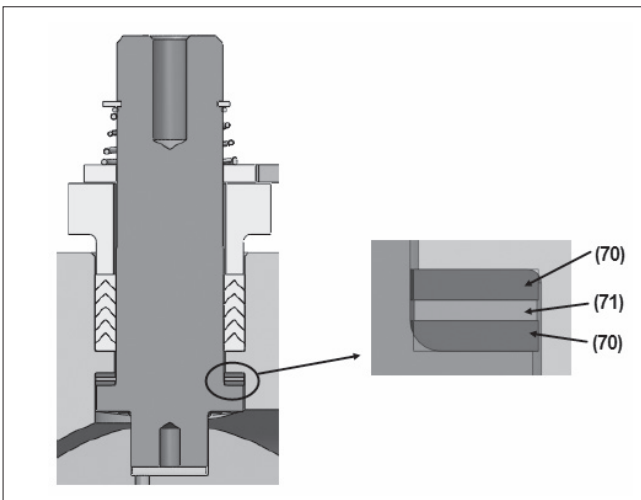

Figure 4.
5. Place the stem bearings (70) and secondary stem seal (71) on the stem (5) shown in **Figure 4**.